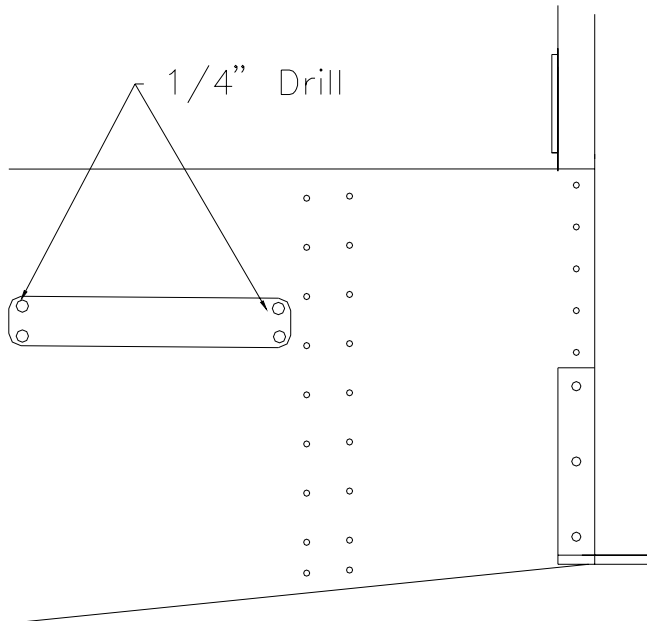

Figure 20.8.7
11) Drill 1/4" holes just inside of each corner of the marked outline. Figure 20.8.7.